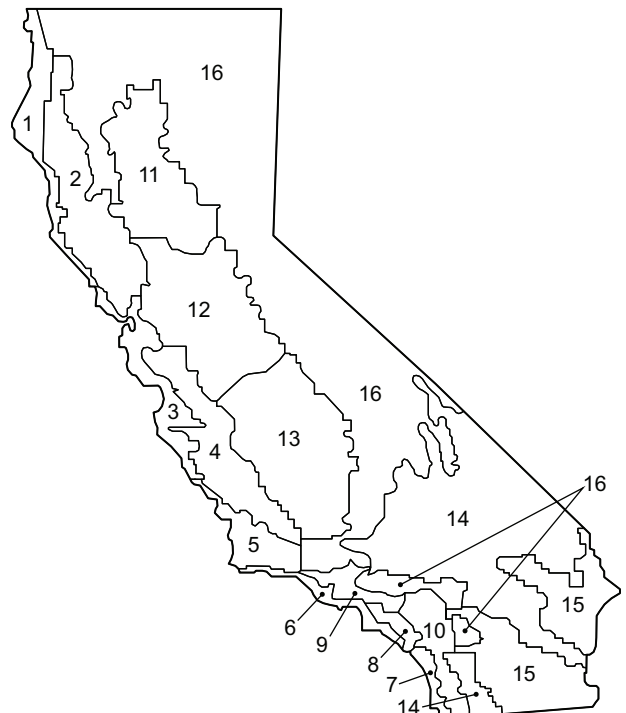

Fig. 77 — California Title 24 Zones
b. See Fig. 77 for map of California Title 24 zones.